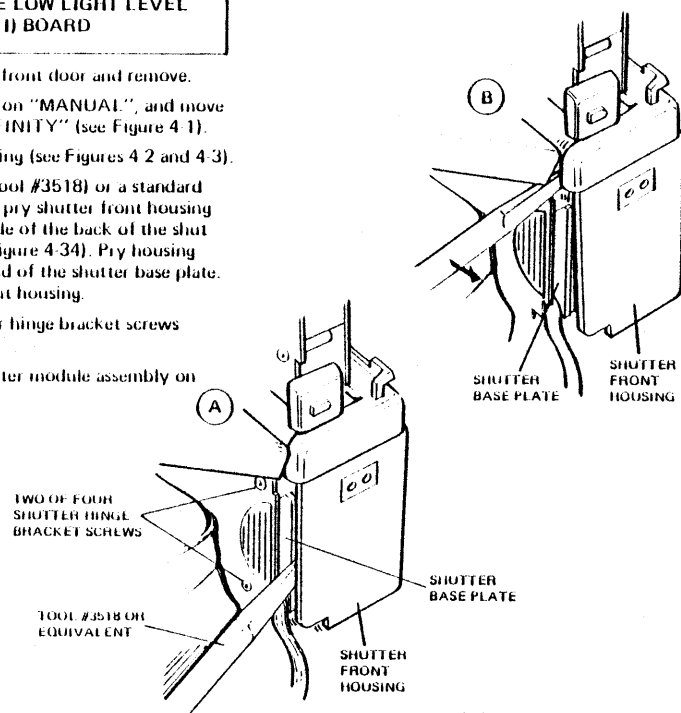

FIGURE 4-34
4. Use soldering aid (Tool #3518) or a standard small screwdriver to pry shutter front housing over tabs on each side of the back of the shutter base plate (see Figure 4-34). Pry housing over tabs on each end of the shutter base plate. Remove shutter front housing.
5. Remove four shutter hinge bracket screws (see Figure 4-34).